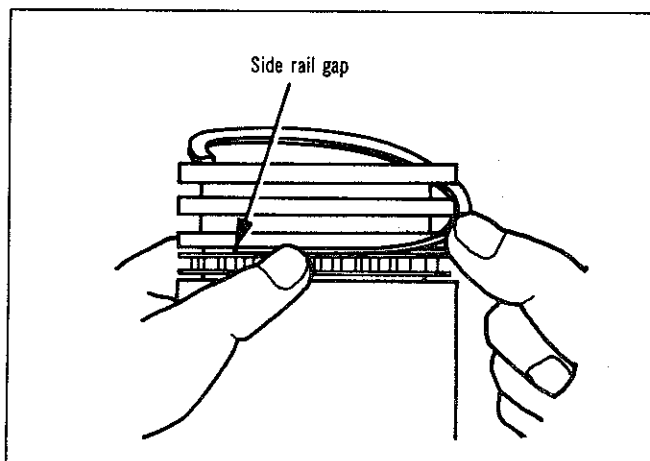

Fig. 78—Fitting oil ring side rail
(11) Install the piston rings in the following order:
- (b) Fit one end of the oil ring top side rail into the groove and "peel" the ring into the groove. (Refer Fig. 78). Fit the lower side rail in a similar manner.